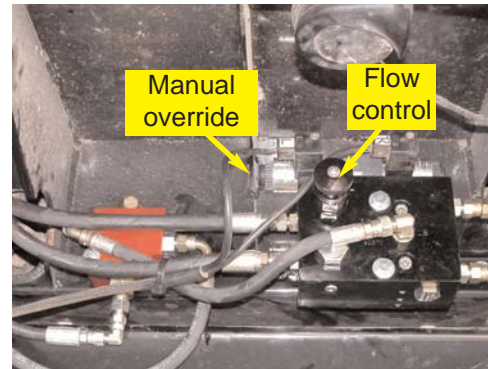

Figure 11. Automated steering flow control knob and manual override button.
- Turn counter-clockwise to increase flow.(Figure 11.)
- e. The coils on the Automated Steering Block have manual push button overrides. Push either manual override to move the steering wheels all the way to one extreme. (Figure 11.)
- f. Count the number of seconds for the steering wheels to move all the way in the opposite direction while pressing the manual override the other coil. (Figure 11.)
- g. Adjust the Automated Steering oil flow control to achieve an end-to-end steering cycle time of approximately **12** seconds. (Figure 11.)